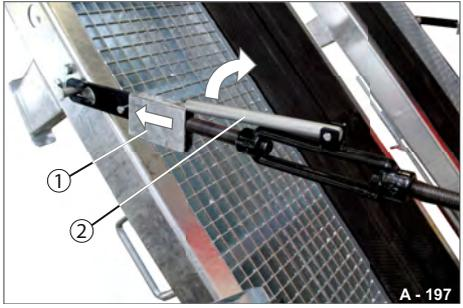

Fig. 50 Unlocking the securing tensioner
► Slide the rectangular securing element (Fig. 50/1) upwards. The lever is released.
► Swing the lever (Fig. 50/2) out.